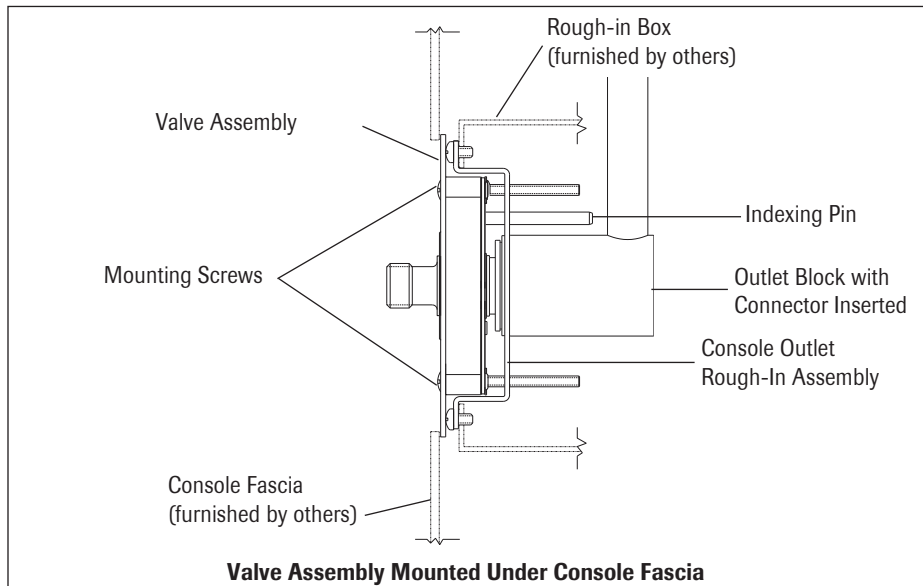

Figure 3
3. Installing the valve assembly under the console fascia (Figure 3):